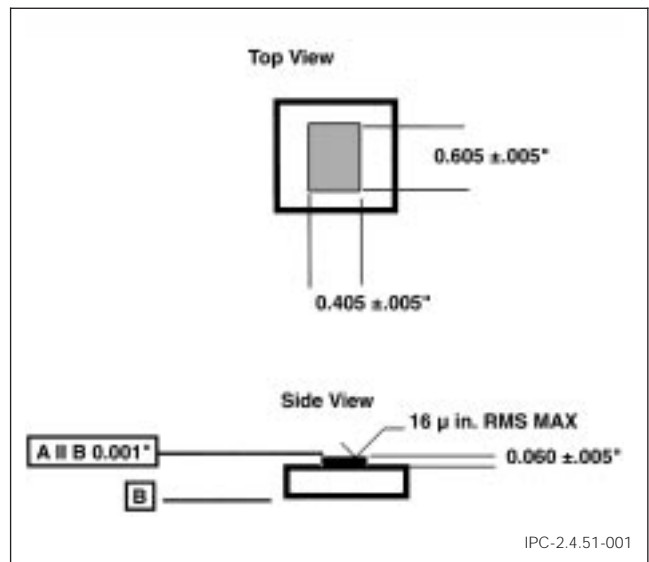

Figure 1
**4.1.1** Two steel blocks; one with dimensions 1"x1"x $\frac{5}{16}$ ", the second must be machined to equal the area of a TO-220 transistor (.605"x.405"x0.060") on the center top of the block. Both surfaces contacting the adhesive during the test must be highly polished. (See Figure 1).